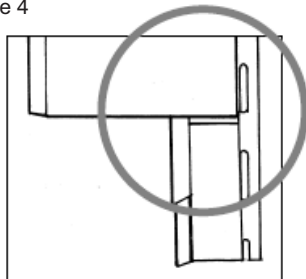

Figure 6
- 3) Cut and remove this area. Continue the crosscut to the edge of the lineal. widen this cut to make a slit about $1/16$ " wide.(Figure 6)